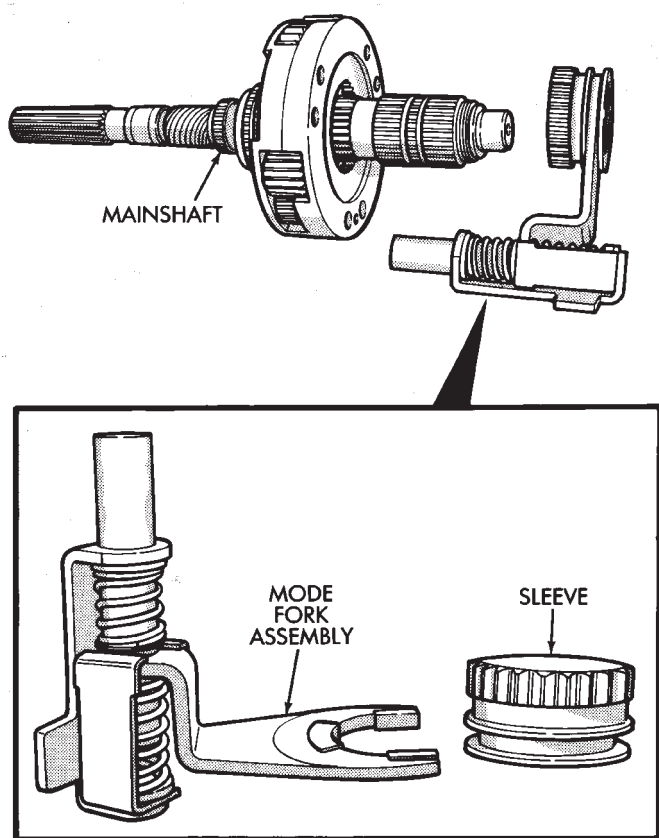

Fig. 63 Installing Mode Fork And Sleeve
(40) Install mode sleeve in mode fork (Fig. 63). Then install assembled sleeve and fork on mainshaft. Be sure mode sleeve splines are engaged in differential splines.